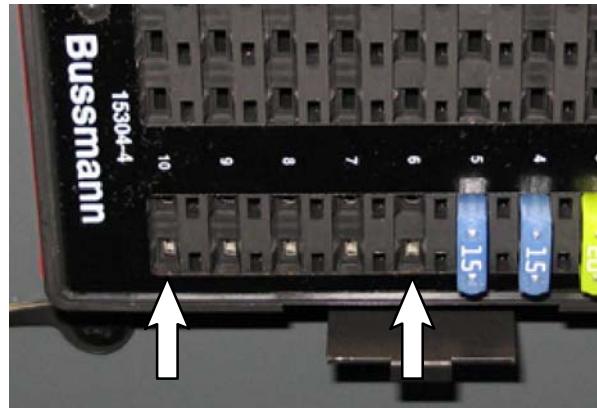

FIG. 5
40. Plug the 5 Amp fuses (30) into locations F6 and F10 in the relay panel and reinstall the relay panel cover onto the relay / fuse panel. (Fig. 5)